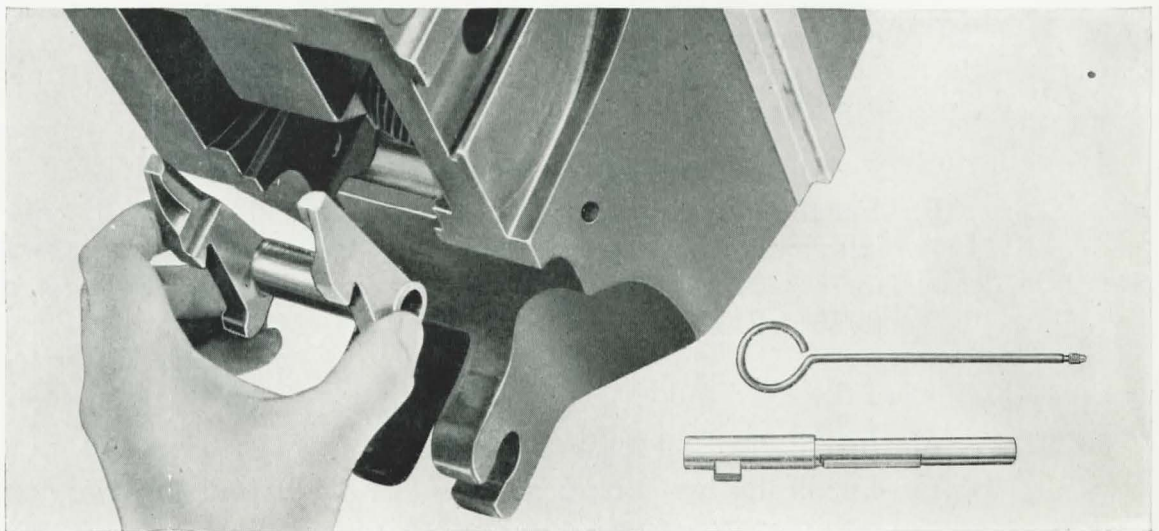

Figure 70
- (1) Screw the tool into the threaded end of the extractor spindle, swing both extractors to the extreme rear position, and then swing the extractor spindle arm to the extreme forward position.
- (2) Pull out the spindle and dismount the extractors through the bottom of the housing, **Figure 70**.
- (3) Swing the extractor spindle arm to the extreme rear position and remove it from the breech housing.